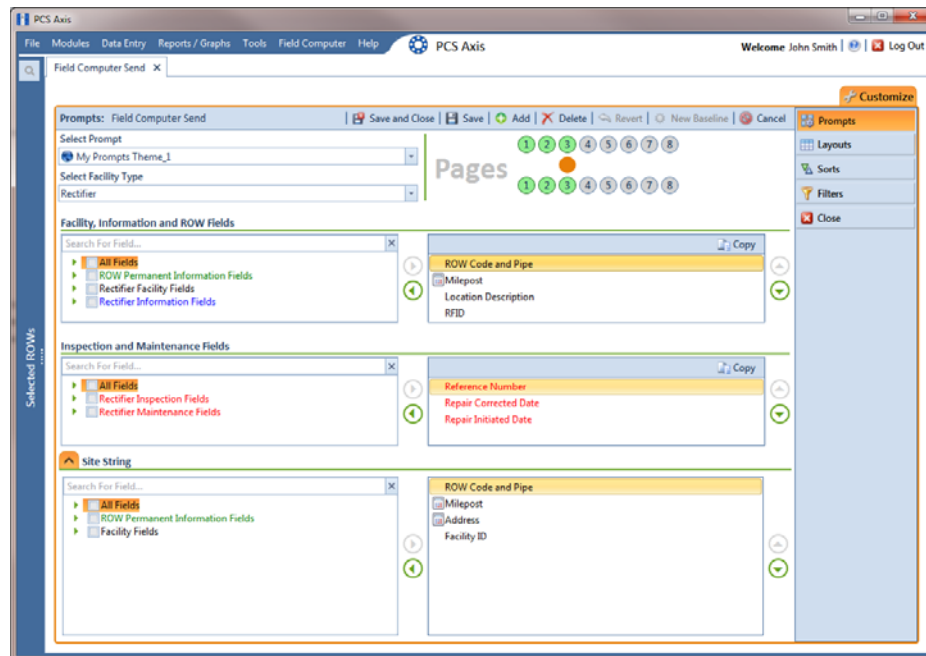

Figure 13-32. Prompts
- a Click the **Site String** tab to view a list of fields available for selection (Figure 13-32, page 593).
Information fields in *Facility, Information, and ROW Fields* automatically copy to each page of prompts. The following example shows three pages of prompts (Figure 13-32, page 593).
Information fields in *Facility, Information, and ROW Fields* automatically copy to each page of prompts (Figure 13-32, page 593).